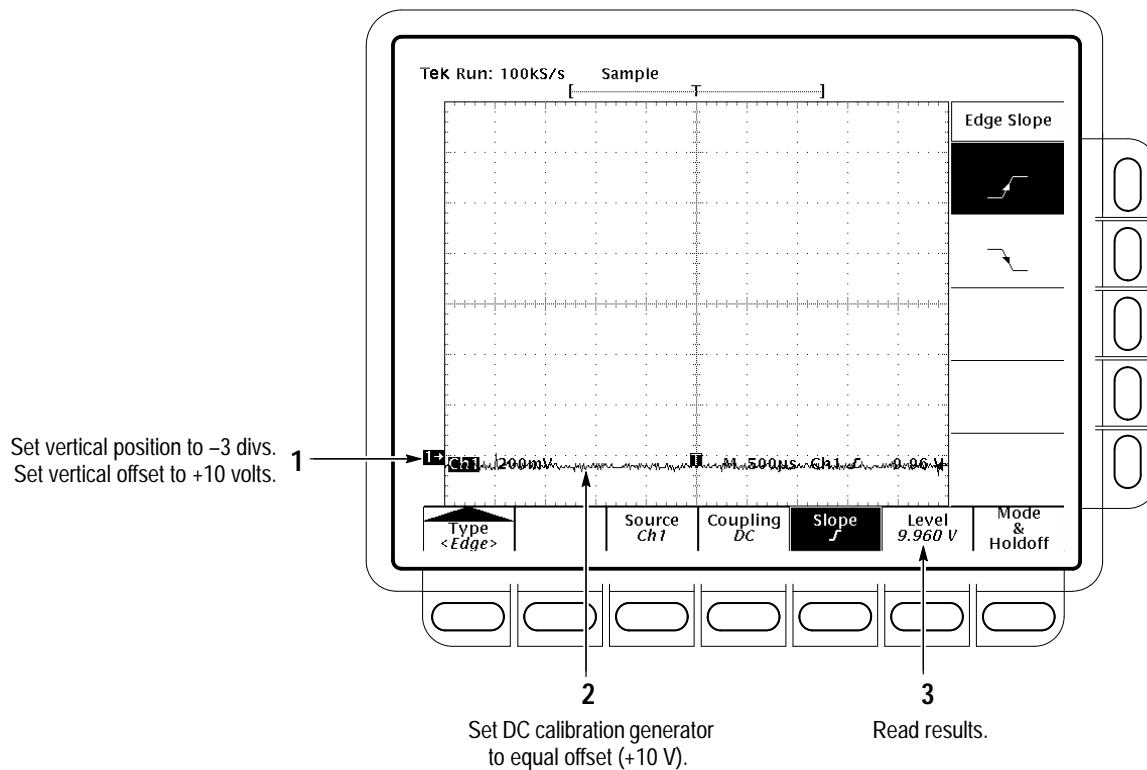

Figure 1–16: Measurement of Trigger-Level Accuracy
c. *Read results (Check against limits):* See Figure 1–16.